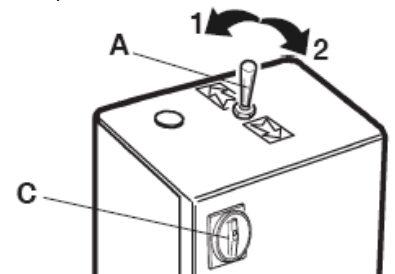

Fig.15
**STIJGEN (Fig.15)**
**DALEN (Fig.15)**